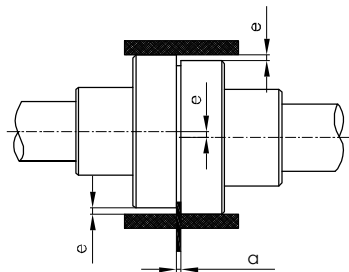

Fig. 3. Aligning a flexible coupling
- To control parallel sliding error, straight edged steel ruler is pressed down on one half of the coupling in parallel to the axis. It is checked against the other half. Straight edge must touch to the both half couplings completely same at all points in each vertical and horizontal planes (Fig. 3).